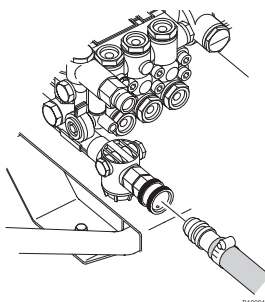

Fig 3. Connect the suction hose.
- 5.4 Connect the suction hose to the Power Washer (fig 3). Ensure the connection has no air leaks. Air leaks on the suction hose connection will impair the performance of the machine.